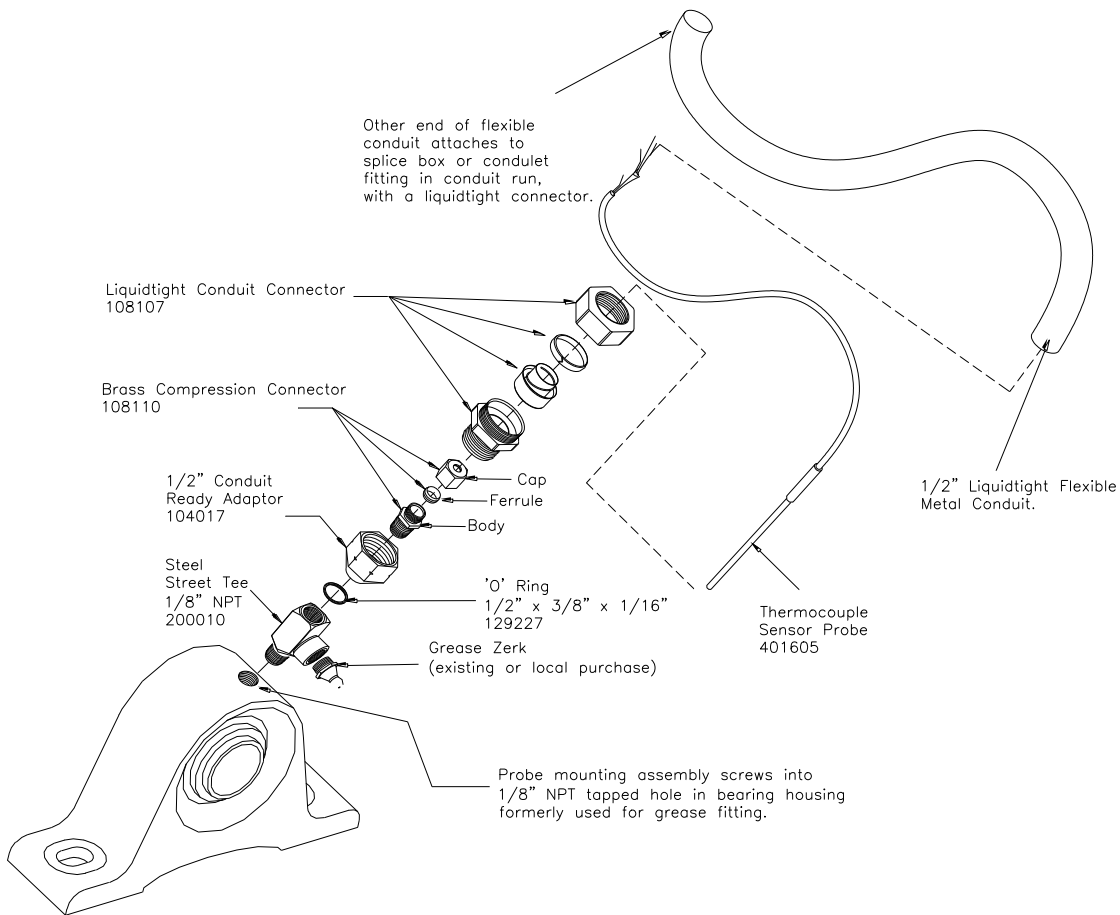

Figure 21. Bearing Probe Sensor and Fittings
**4.6.2.1.1.** Remove grease fitting (Zerk) from bearing housing. Most bearing housings are drilled and tapped for 1/8" NPT grease fittings (Zerks). If it is tapped for 1/8" NPT, proceed by inserting male threaded end of 1/8" NPT Steel Street Tee (200010) into the hole that has been vacated by the grease Zerk. Be careful not to over tighten. Screw existing Zerk into the side opening of the Tee and aim it so that it can be greased easily. (See Figure 21).